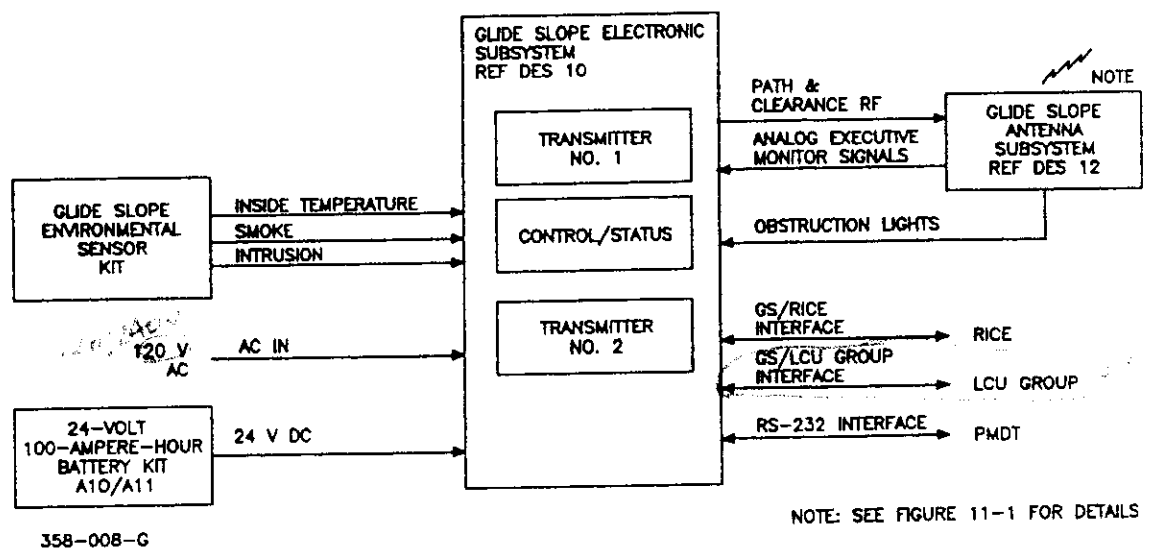

Figure 2-1. Glide Slope Group, Simplified Functional Block Diagram
2.2 GLIDE SLOPE GROUP SIMPLIFIED THEORY OF OPERATION.- See figure 2-1. The glide slope group generates and radiates radio frequency (rf) signals to provide final approach glidepath information to landing aircraft. This information is received by the aircraft and is displayed as a visual indication of the aircraft's elevation position. The displayed information enables the pilot to maintain proper glidepath until visual contact is made with the runway and landing is completed. The glide slope group consists of electronic subsystem 10; glide slope antenna subsystem 12; 24-volt, 100-ampere-hour battery kits A10 and A11; and the glide slope environmental sensor kit. As shown in figure 2-1, glide slope electronic subsystem 10 generates rf (PATH and CLEARANCE RF) signals that are applied to glide slope antenna subsystem 12. Glide slope antenna subsystem 12 sends status signals (ANALOG EXECUTIVE MONITOR SIGNALS) to glide slope electronic subsystem 10. The glide slope environmental sensor kit provides raw sensor/detector data that is processed by glide slope electronic subsystem 10. This sensor data includes inside (and outside if an outside temperature sensor is installed) temperature status, smoke detection status, intrusion detection status, and status of the obstruction lights on the antenna. There is a glide slope to remote indication and control equipment (glide slope/RICE) interface. The glide slope/RICE interface provides an interface between the glide slope group and control tower personnel via the RICE. The glide slope/RICE interface enables receiving commands (such as turning transmitters on or off and reset) from the control tower personnel and sending status data (such as which equipment is selected) to the control tower personnel. Glide slope electronic subsystem 10 has an RS-232 interface that allows use of a portable maintenance data terminal (pmdt) to set parameters and check glide slope status. During normal